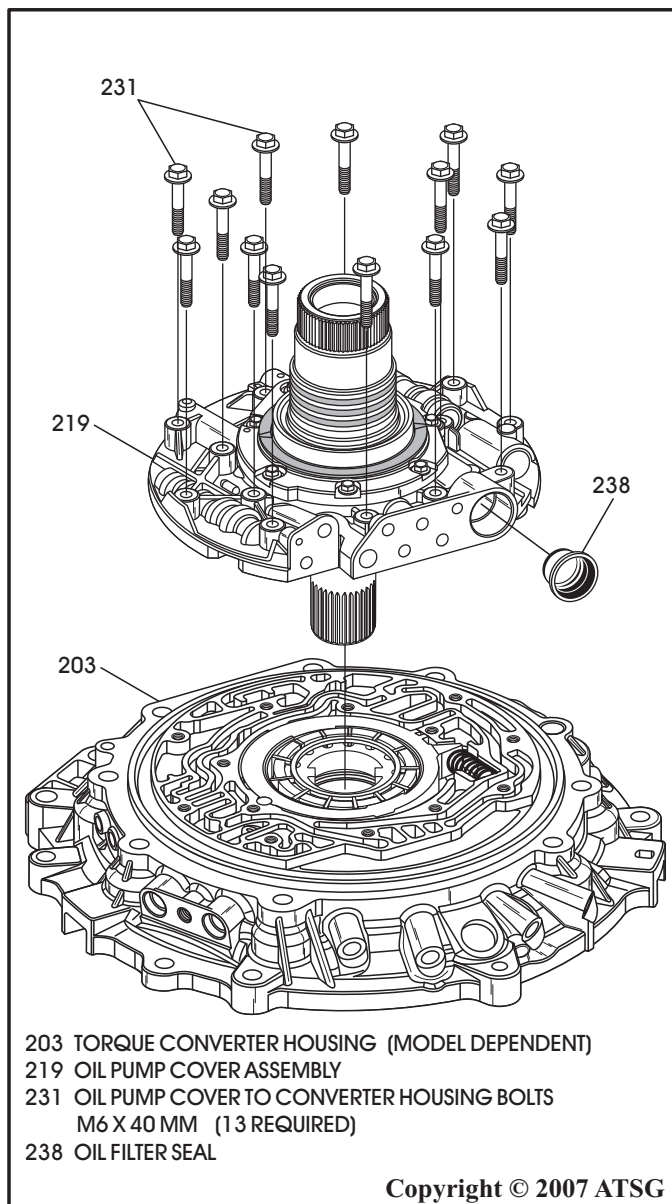

Figure 72
37. Install the other oil pump vane ring on top of the rotor and inside of the oil pump vanes. The finished assembly should look like illustration in Figure 72.
38. Install the pre-assembled oil pump cover onto the converter housing, as shown in Figure 72.
39. Install the oil pump cover to converter housing retaining bolts in their proper locations, as shown in Figure 72, and "hand tighten" only.